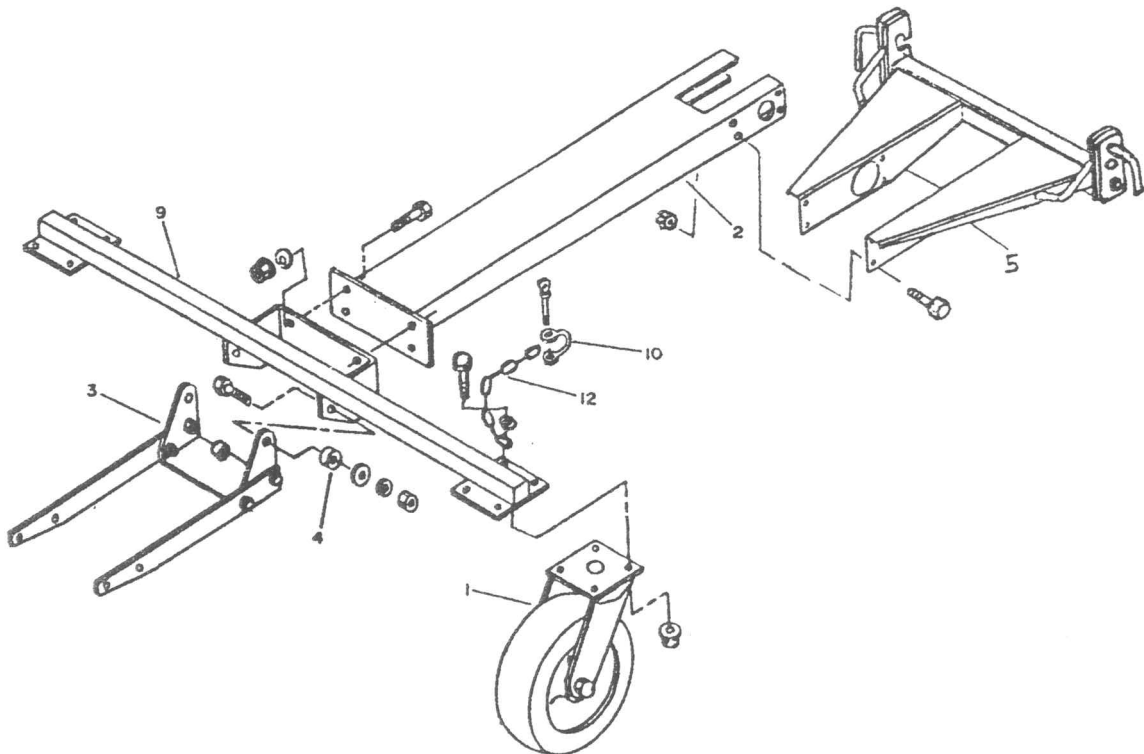
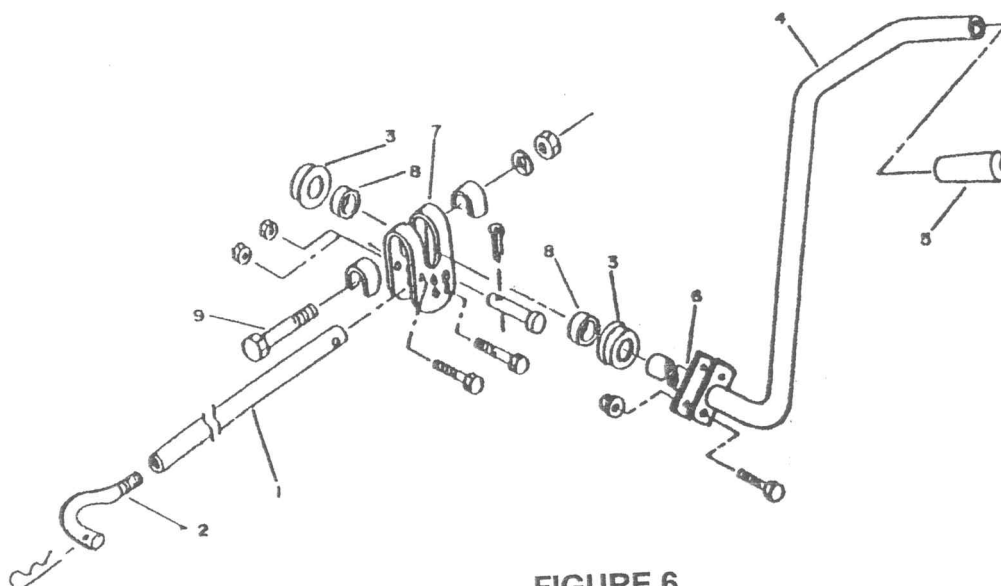

FIGURE 5
FIGURE 6
- a) Install the two caster wheels (fig.5, item 1) to the wheel support (item 9) and two non-sway chains $\frac{3}{16}$ X 32" (item 12) on top of support plate. Using the $\frac{3}{8}$ X 1" bolt & flatwasher through the chain, through the support plate on the inside rear hole. In the other holes, use $\frac{3}{8}$ X $\frac{3}{4}$ " bolts. Secure with nuts, tighten securely.
- b) Install the subframe (fig. 5, item 2) to the wheel support (item 9) and secure with four 7/16 X 1" bolts, lockwashers and nuts. Tighten securely.
- c) Install the subframe to the snowblower push frame (fig.5, item 3) with 2 sleeves 1.00 dia. X 0.31" (item 4). Secure in place with two 1/2 X 1 1/2" bolts, flatwashers, lockwashers and nuts. Tighten securely.
- d) Install the subframe extension (fig. 5, item 5) to subframe using 3/8 x 3/4" hex bolts and nylon nuts. Tighten securely.
- e) Adjust overall length of push arm (fig. 6, item 1) to 43 3/4" by turning the adjusting rod (item 2).
- f) Install the adjusting rod (fig. 6, item 2) in the middle sleeve holes of the pivot support (fig. 5, item 3) and secure with 3mm hair pin.
- g) Install ball bearings (fig. 6, item 3) by inside the subframe (fig. 5, item 2) on each side toward outside. Install the lift lever extension (fig. 6, item 6) from the left hand side through bearing (item 3), sleeve spacer (item 8), lever assembly (item 7), sleeve spacer (item 8) and the other bearing until it protrudes by 1". Tighten the 5/8" bolt lightly.
- h) Install arm lift (fig. 6, item 4) on extension (item 6) using two 5/16 x 3/4" bolts with nuts. Tighten securely.
- i) Rotate the lift lever (fig. 6, item 7) upward to the maximum, against the stop. Set handle section of arm lift (item 4) parallel to the subframe. SEE : Step 4, item f) for final adjustment.
- j) Install 1" handle grip (fig. 6, item 5) on the arm lift.
- c) Install chains with shackles (fig. 5, items 10 & 12) to prevent the snowblower from shaking sideways. The chain located at the bottom right hand side of the push frame should be attached (using shackles) to the bottom left hand side of A.T.V. The chain located at the bottom left hand side of push frame should be attached to the bottom right hand side of A.T.V. Chains must be tight and horizontally crossed (parallel to ground).
- f) Raise the snowblower head by hand until the lift mechanism locks in place. Normally, you have 3 or 3 1/2" clearance between the snowblower and the ground. If not, adjust the push arm by turning the adjusting rod (fig. 6, item 2) to obtain this height. When the snowblower is on the ground, make sure the arm lift does not interfere with the A.T.V.'s front wheels under any circumstances. In the raised position, the handle section of the lift arm should be parallel with the ground. After the adjustments have been done, tighten the 5/8" bolt very firmly (fig. 6, item 9) at 80 lbs/ft.
The lift arm (fig. 6, item 4) to raise and lower the snowblower is located on the left hand side. To raise the snowblower, pull the lever back and to lower the snowblower, push the lever forward.